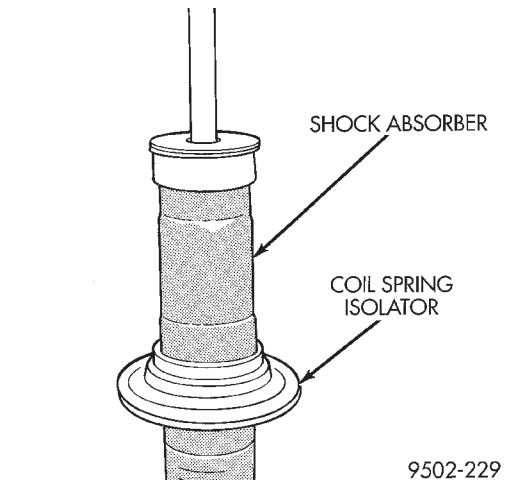

Fig. 62 Coil Spring Isolator
(13) Remove the coil spring isolator (Fig. 62) from the lower spring seat on the shock absorber.
(14) Inspect the shock absorber for any condition of shaft binding over the full stroke of the rod.
(15) Inspect all disassembled components for signs of abnormal wear or failure, replacing any components as required. Inspect shock absorber for signs of abnormal oil leakage and for loss of gas charge. To check for loss of gas charge in shock absorber, push the shaft of the shock absorber in and release, the shaft should return to its fully extended position. If shaft does not return to its fully extended position replace the shock absorber.
(3) Install the coil spring isolator (Fig. 62) on the lower spring seat of the shock absorber assembly.